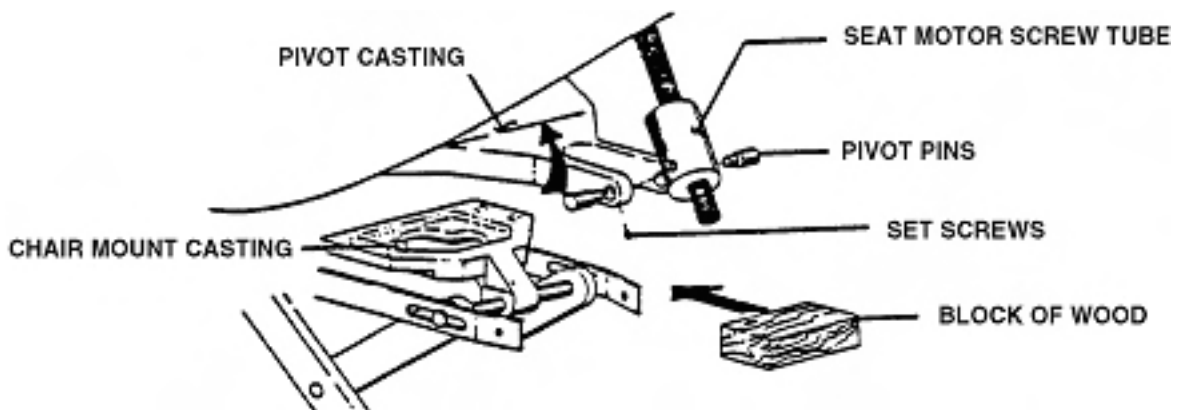

Figure 3-8. Installing wood block.
f. Raise the toe section of the chair and place a wood block between the pivot casting and the chair mount casting. See figure 3-8.